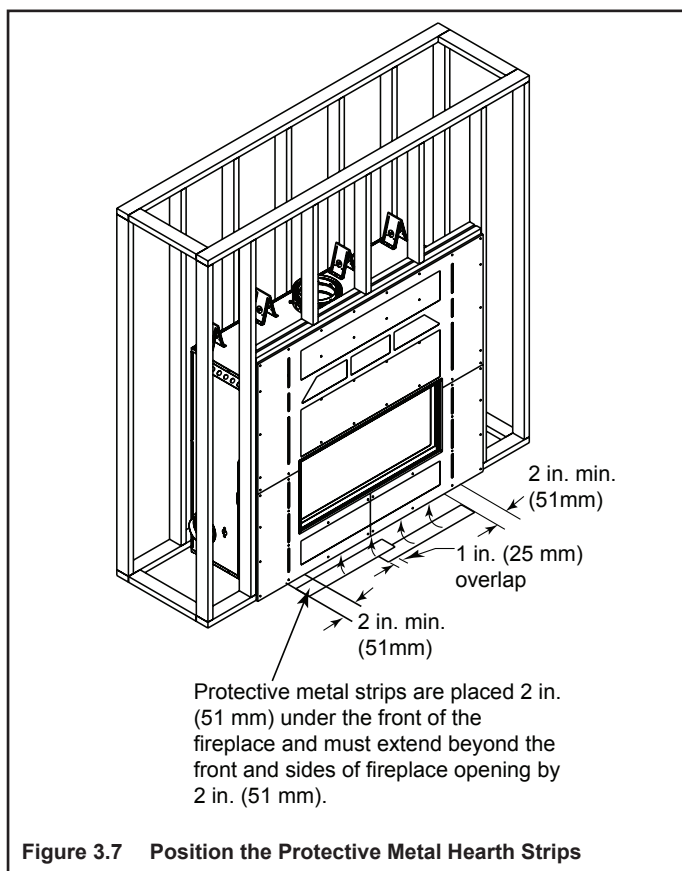

Figure 3.7 Position the Protective Metal Hearth Strips
- Metal strips must extend beyond the front and sides of the fireplace opening by at least 2 in. (51 mm). See Figure 3.7.